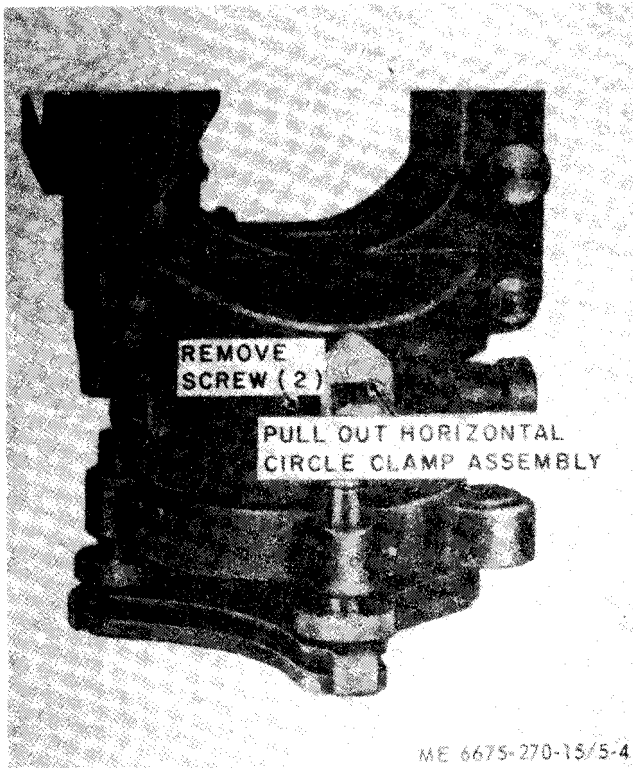

Figure 5-4. Horizontal circle clamp assembly, removal and installation.
a. Removal. Refer to figure 5-4 and remove the horizontal circle clamp assembly.
b. Installation. Refer to figure 5-4 and install the horizontal circle clamp assembly.